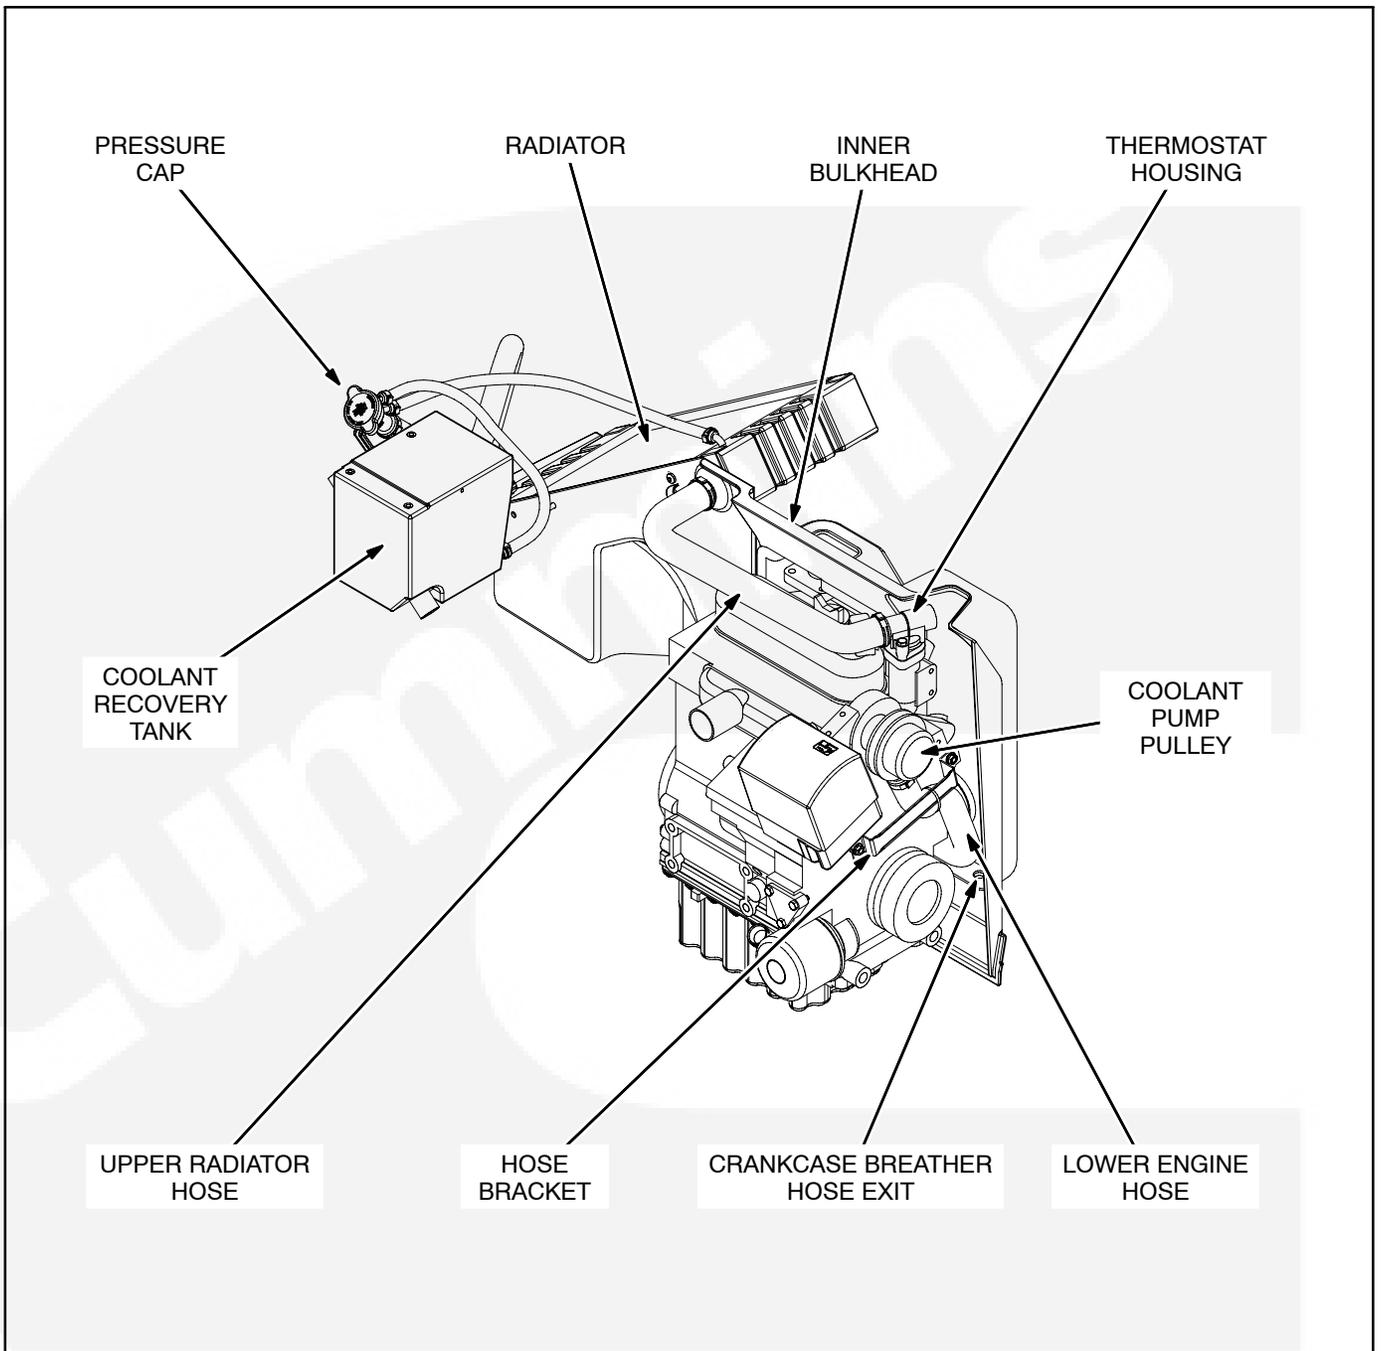
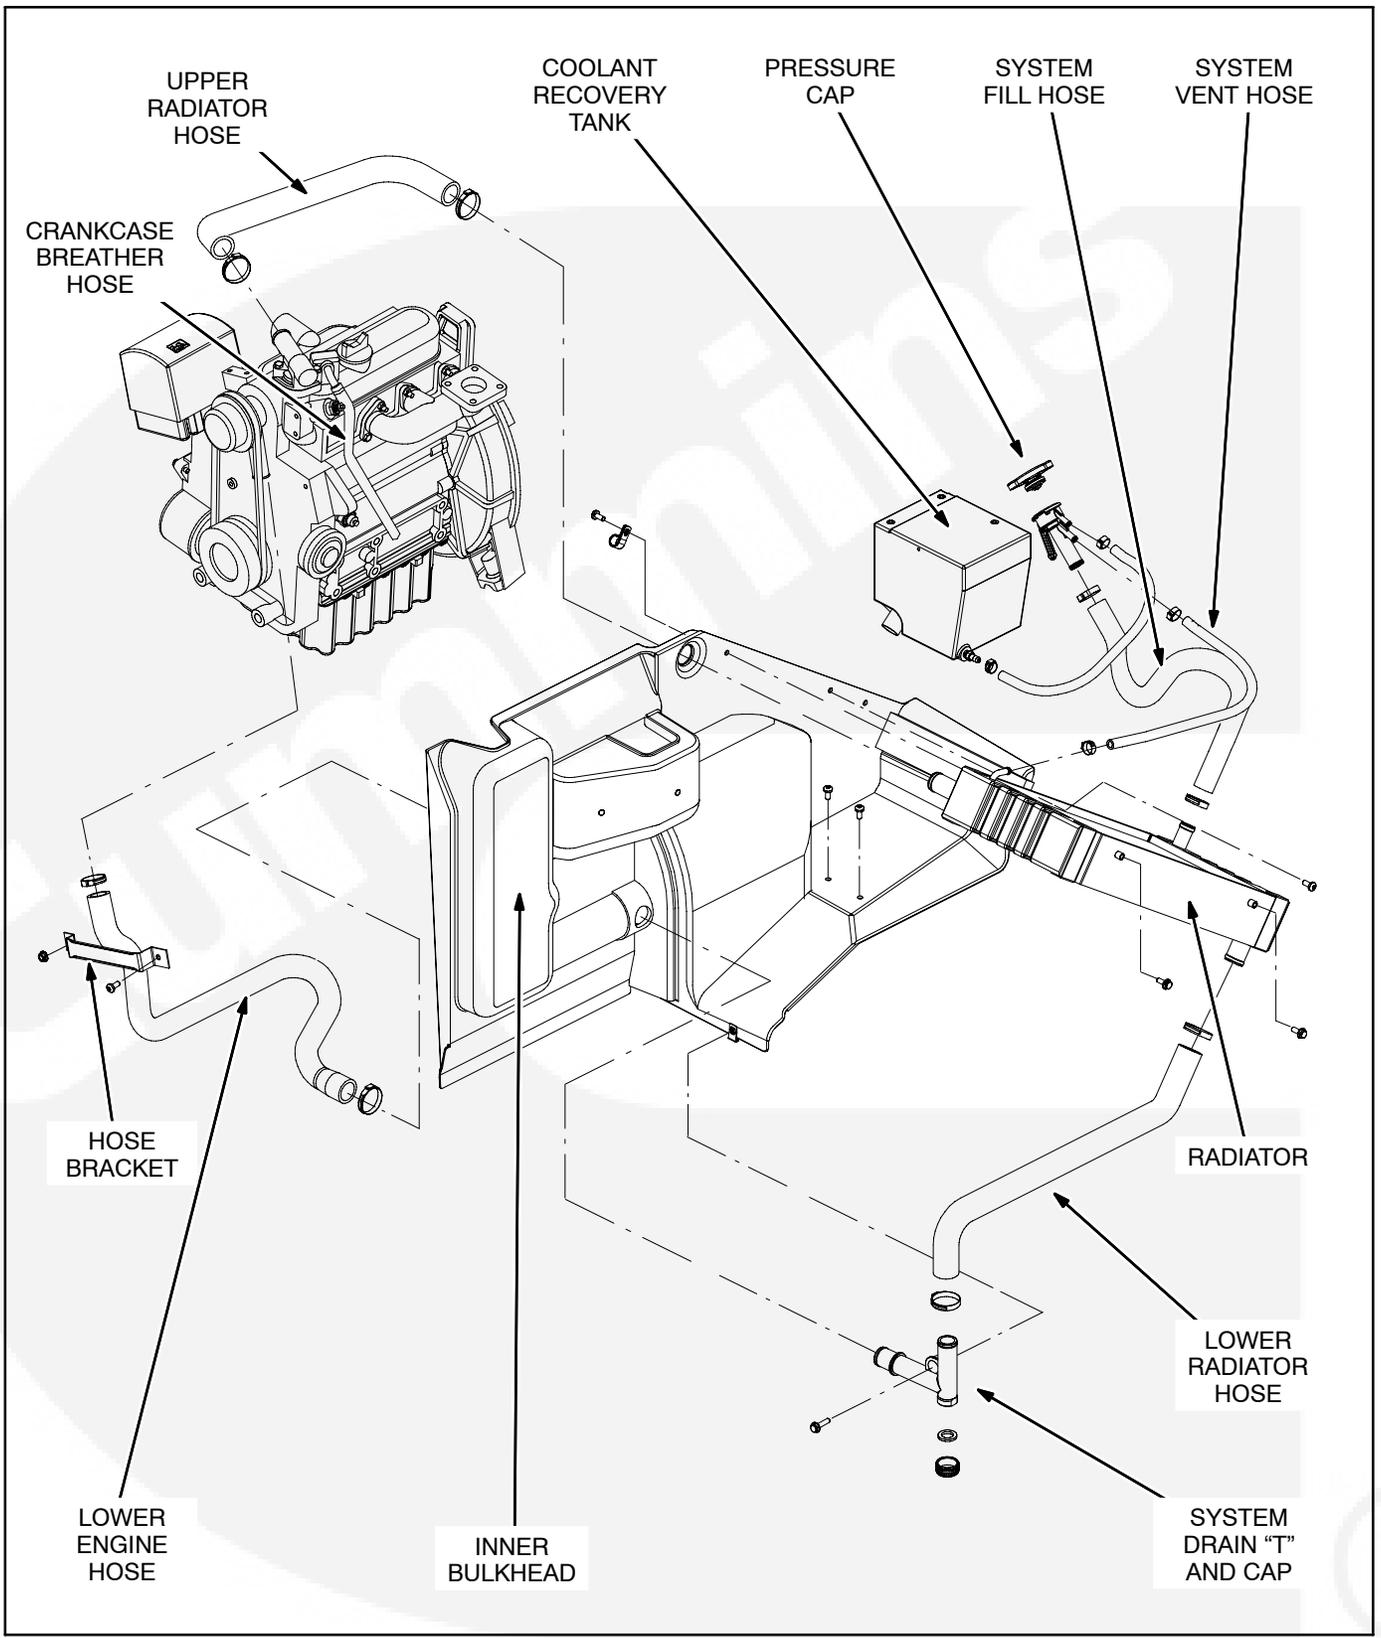

FIGURE 9-1. ENGINE COOLING SYSTEM (1 OF 2)
FIGURE 9-2. ENGINE COOLING SYSTEM (2 OF 2)
The genset has a liquid cooled engine. A centrifugal blower (Figure 11-2) is mounted on the end of the generator (PMA) rotor to move air for cooling the genset and radiator. The blower pulls air in from an opening in the bottom of the genset to pressurize the engine compartment. Air flows through the radiator from the top side into the muffler compartment and then out the bottom. See Figures 9-1 and 9-2.
4. Remove the screw which secures the system drain "T" (Figure 9-2).
Installation is the reverse of removal. If the inner bulkhead was removed, make sure the end of the crankcase breather hose (Figure 9-2) is pushed back through the exit hole in the bulkhead (Figure 9-1).